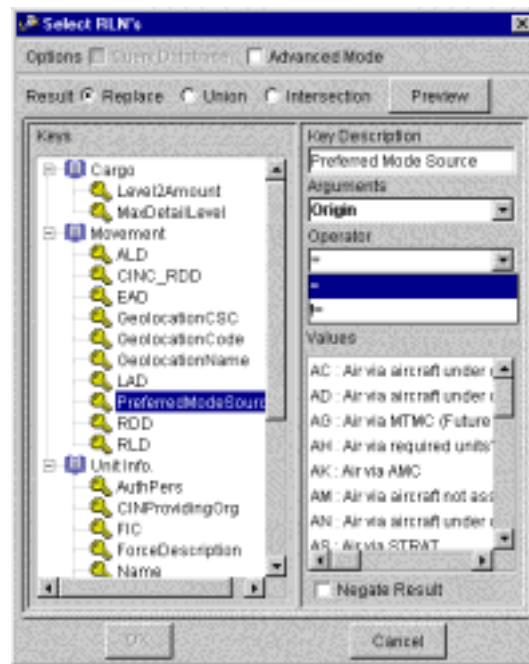

Figure 5.103 Select RLN's Window
7. As needed, click the Operator ▼. A drop-down list of “operators” is displayed (Figure 5.103). Otherwise, skip to Step 9.